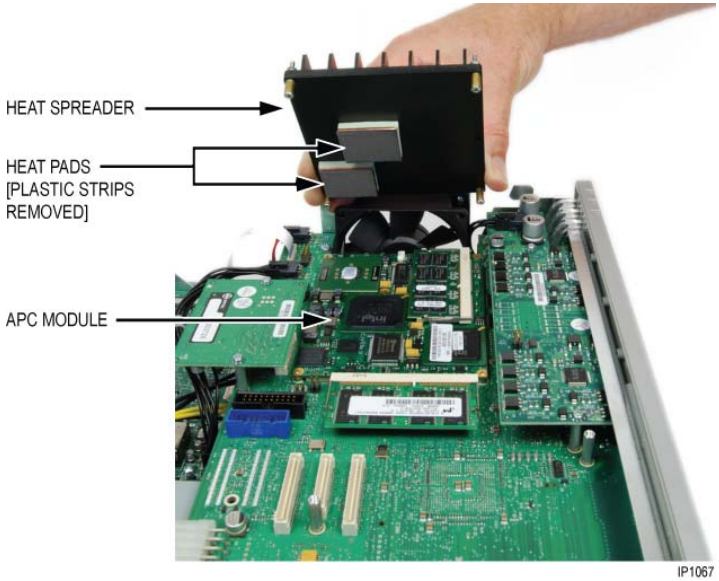

Figure 62: Positioning the Heat Spreader on the APC Module
- Place the four screws (supplied) in the heat spreader, and lower the heat spreader onto the APC as shown in Figure 62. Align the cutout on the heat spreader above the memory modules on the APC.